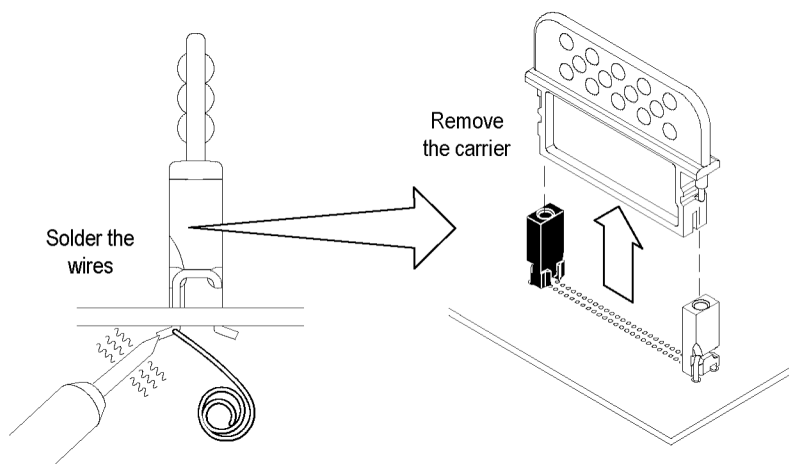

Figure 9: Soldering the retention posts in the PCB
4. Solder the posts to the PCB. (See Figure 9 on page 12.) The posts can be soldered from the top or bottom of the circuit board, but it is best to solder the bottom to avoid the heat-sinking effects of the posts on top.